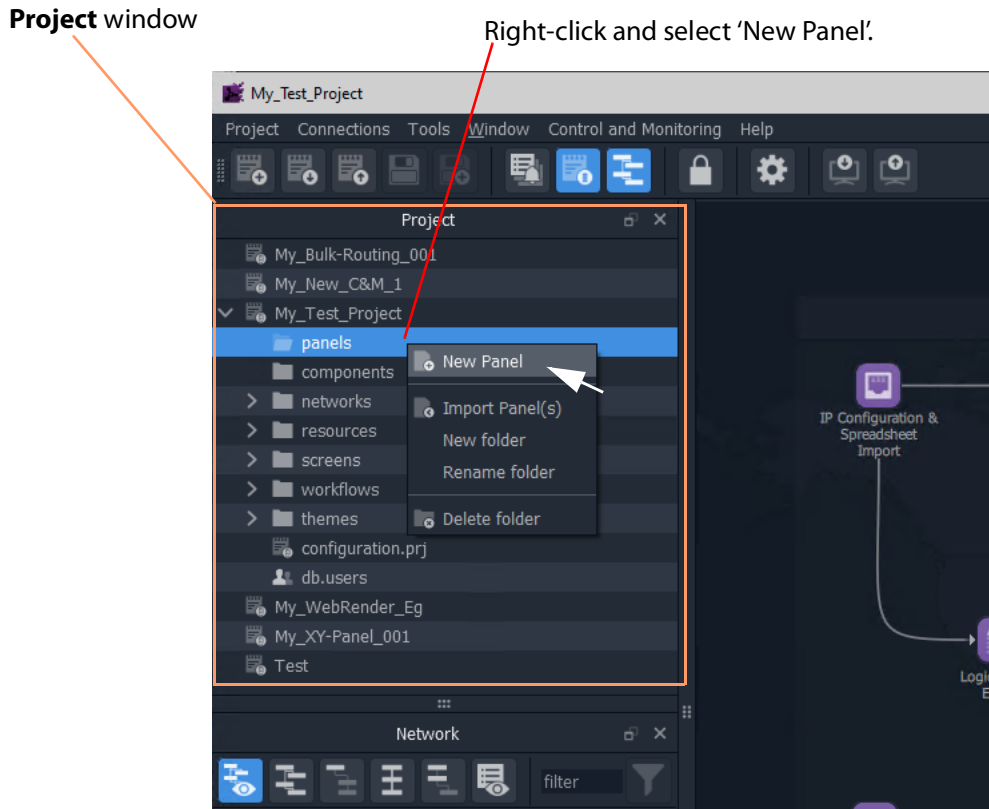

Fig. 6-6: Create a New XY Routing Panel
- 2 Right-click on the 'panels' folder and select 'New Panel'. See Figure 6-6.